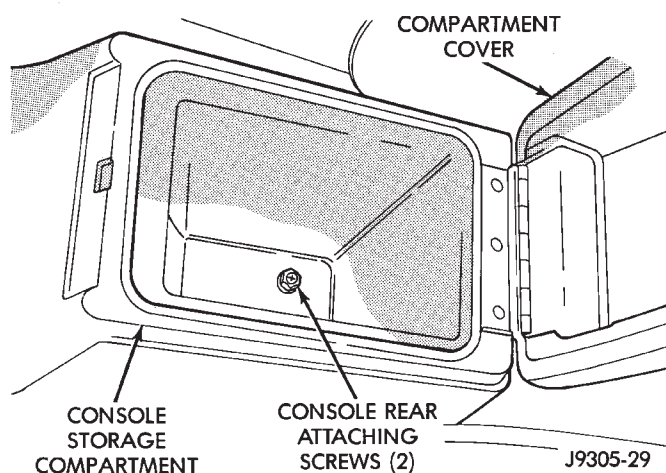

Fig. 46 Full Console Rear Attaching Screw Location
- (1) Disconnect battery negative cable.
- (2) Remove screws at bottom of console storage bin.
- (3) Remove handle from transmission shift lever. Grasp handle and pull up sharply to remove handle from lever.
- (4) Unsnap and remove shift lever bezel (Fig. 46). Bezel has two retainer tabs on each side.
- (5) Remove light bulb from shift lever bezel.
- (2) Remove transmission shift lever handle. Grasp handle and pull upward sharply to remove it from lever.
- (3) Unsnap and remove shift lever bezel (Fig. 46).
- (4) Remove light bulb from shift lever bezel.